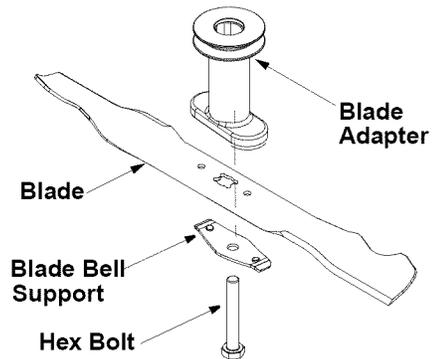

Figure 13
- Place the new blade and blade bell support on the blade adapter with the side marked bottom (has a part number) facing away from the adapter. See Figure 13.